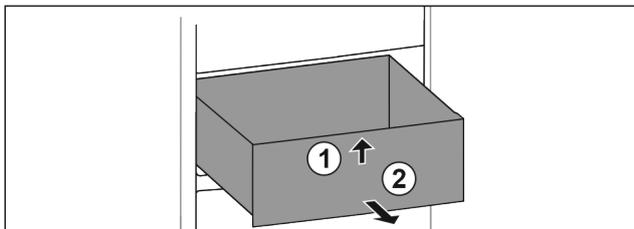

Fig. 81
- ▶ Lift up drawer at the front. Fig. 81 (1)
- ▶ Remove drawer to the front. Fig. 81 (2)